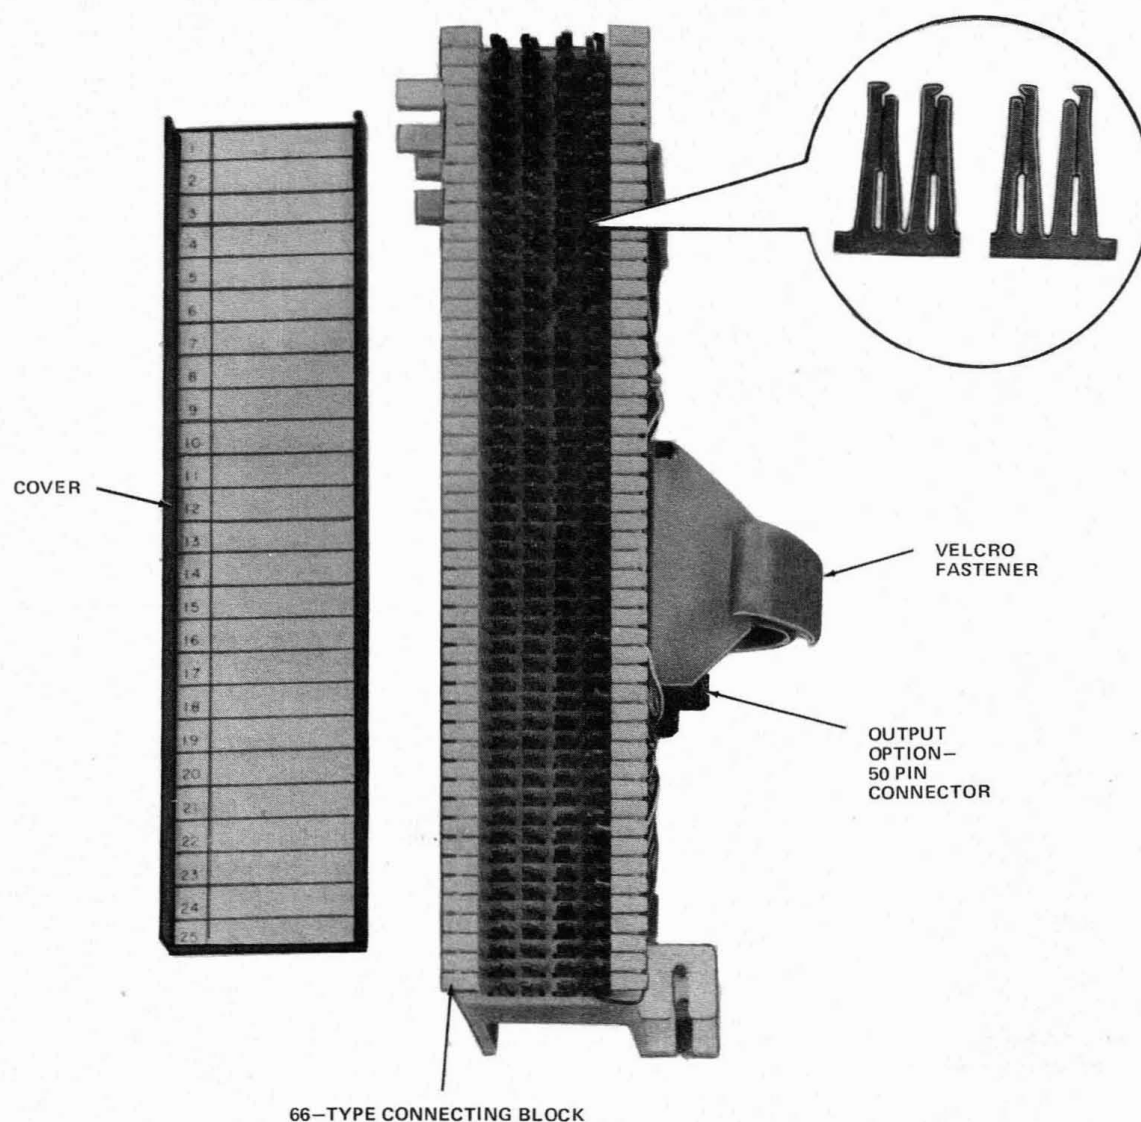

Fig. 1—700A-66-B1-25 Jack
2.04 The 700A-66-B1-25 jack (Fig. 1) is used to interface a maximum of 25 pairs of conductors from the Bell System network to customer- or telephone company-provided terminal equipment. The numbering system of the jack designates the output, input, and connect through options, also the design